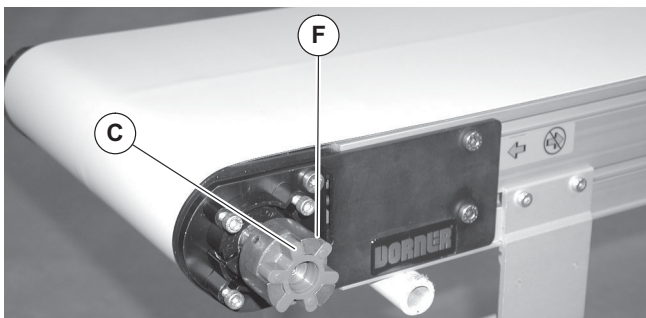

Figure 3
2. Install spider bushing (Figure 3, item C) in three jaw coupling (F).